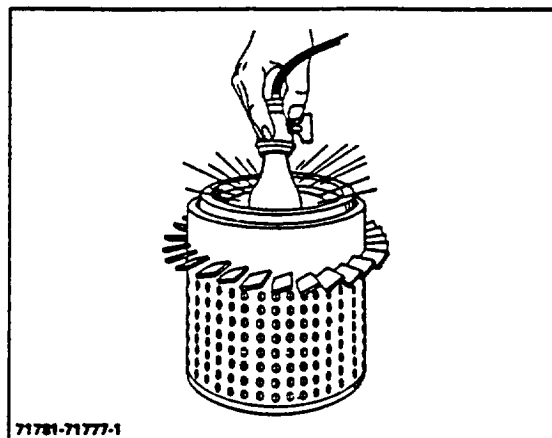

Figure 3-5. Inspecting Filter Element
- c. Inspect for damage by placing a bright light inside element (Fig 3-5). Thin spots, pin holes or the slightest rupture will render the element unfit for further use.